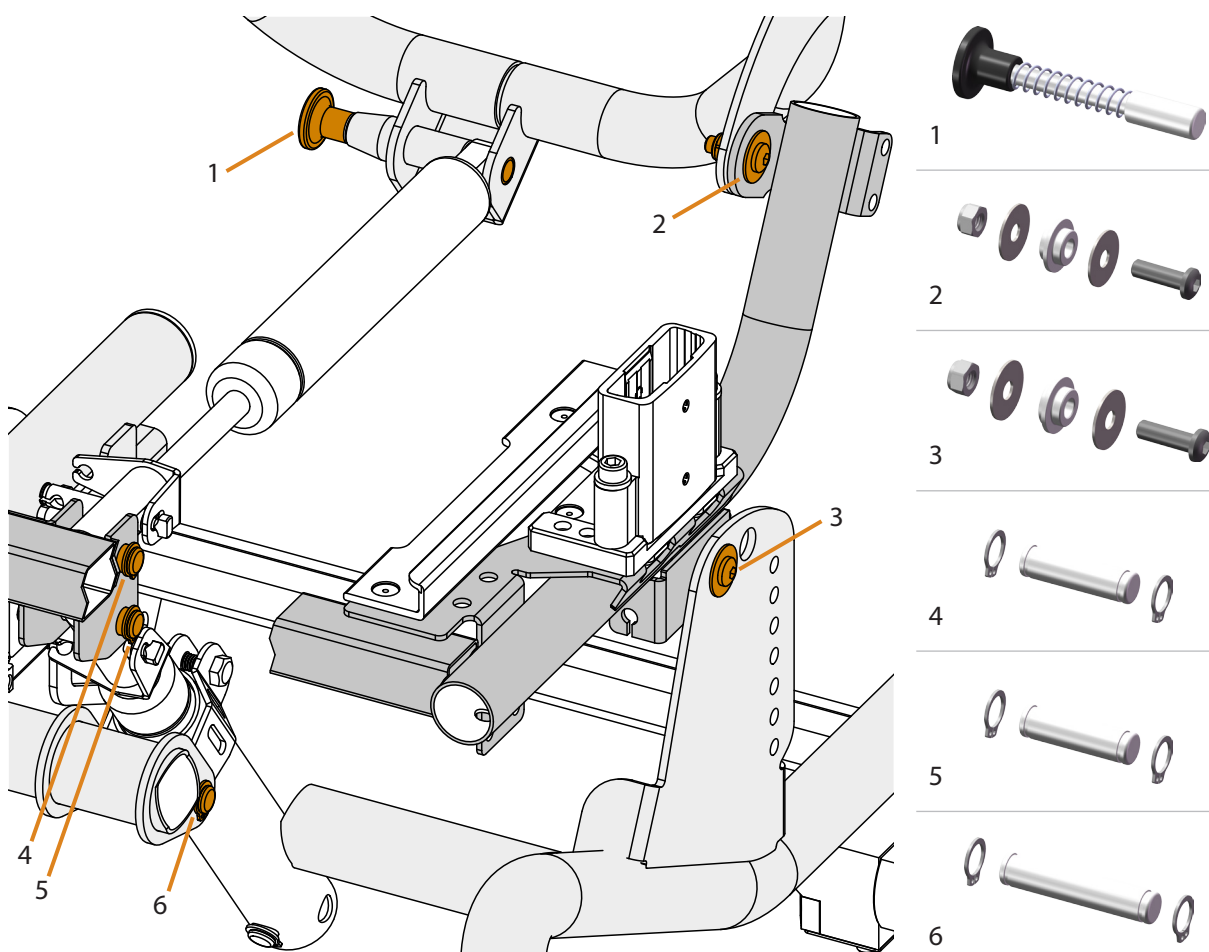
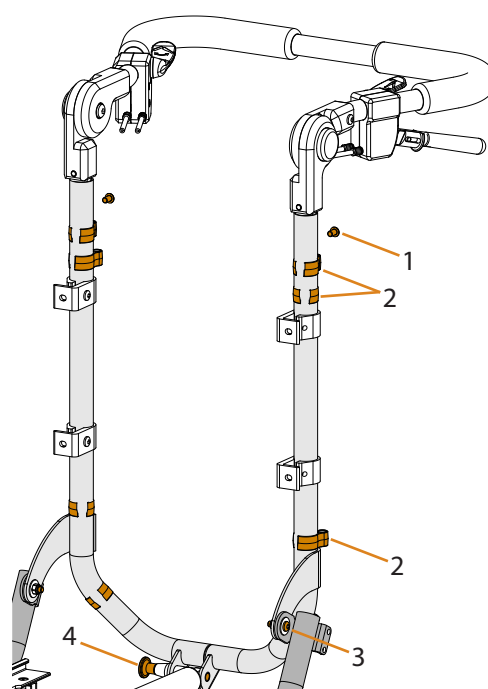

Figure 2. Chassis attachment points
Figure 6. Replacement of back frame
The back of the seat frame is attached to the side plates of the wheel frame with screws on both sides (3 in Figure 2). Each connection consists of a bushing, 2 washers, a screw, and a lock nut.
The front of the seat frame is attached to the gas spring for seat tilt via pin joints (5 and 6 in Figure 2). Each connection consists of a pin and 2 circlips. Note the pins have different lengths.
The back frame is attached to the seat frame with screws on both sides (2 in Figure 2). Each connection consists of a bushing, 2 washers, a screw, and a lock nut. **Note:** the bushings for the back connection (2) and the seat connection (3) are not the same.
The gas spring for back recline is attached to seat frame via a pin joint (4 in Figure 2). The connection consists of a pin and 2 circlips. The gas spring attaches to the bottom of the back frame via a spring-loaded pin (1 in Figure 2) that can be pulled out to release the back frame, allowing it to be folded down to a transport position.
2. Remove all clips (2 in Figure 6) that hold the cables in place on the back frame.
3. Remove the push bar (entire unit) by removing the 2 screws (1) and pulling it fully out of the back frame. Be very careful to not damage the cables.
4. Release the gas spring at the back by pulling out the pin (4), fold the back frame forward.
5. Take apart the screw connections on each side (3) and remove the back frame.
6. Assemble the new back frame by following the same steps in reverse order. Be careful that the screw connections with their bushings are assembled correctly. See Figure 2.
6. Take apart the screw connections (see 3 in Figure 2) and remove the seat frame.